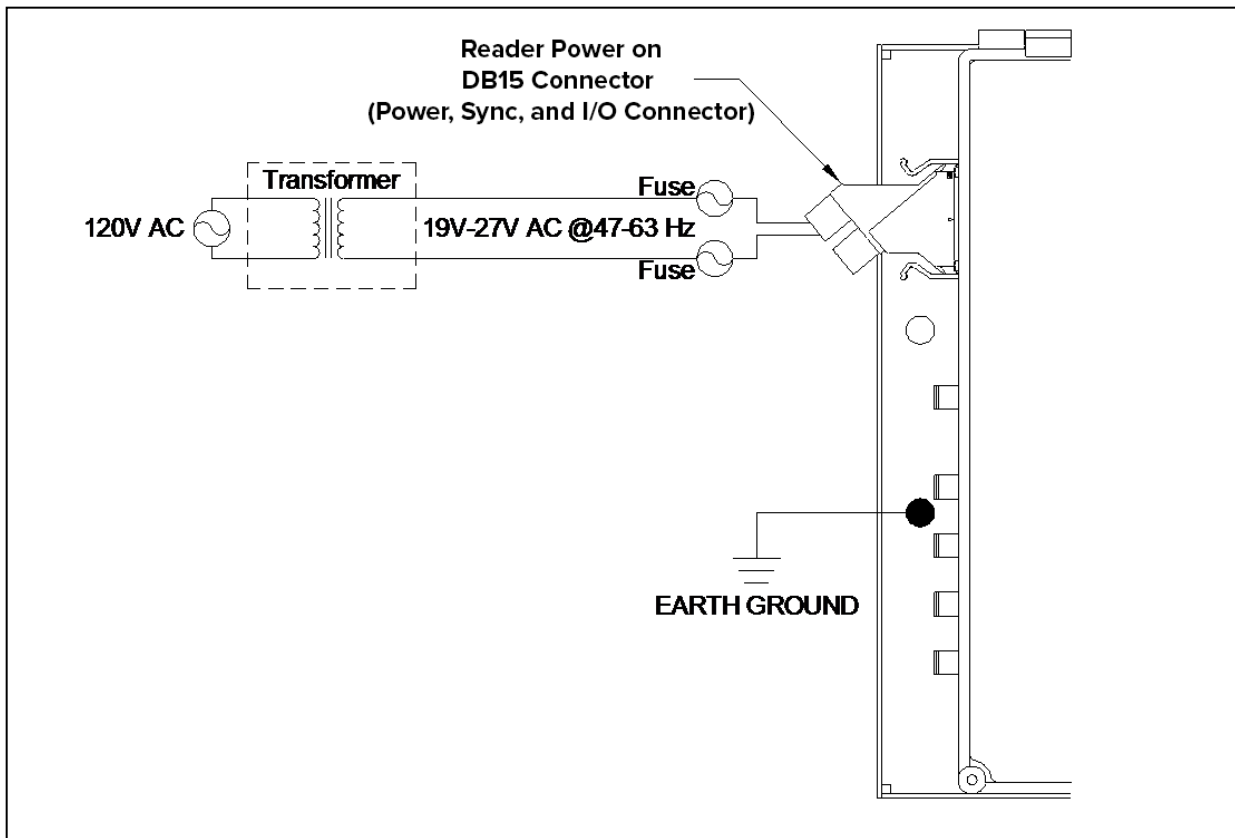
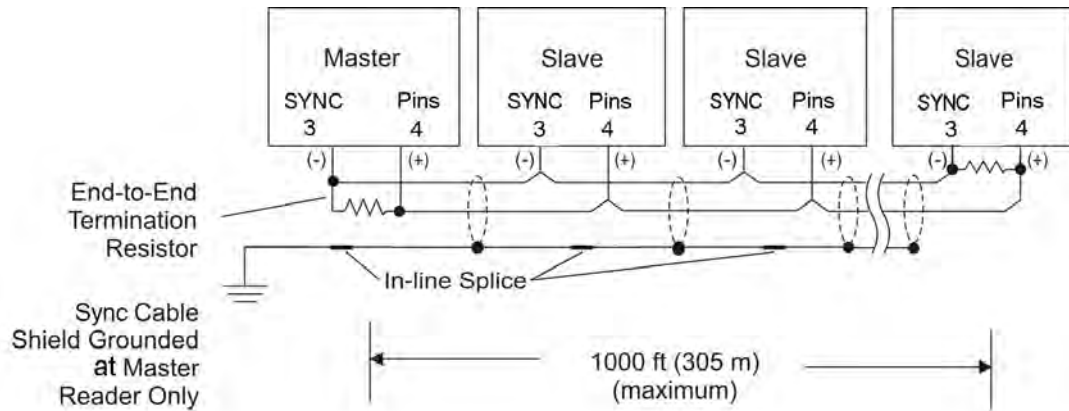

Figure 3-2 Connecting Reader to Power Supply
Figure 3-3 Sync Configuration Example
Input Supply Voltage	19V to 30V DC 19V to 27V AC RMS Note See Figure 3-2 for AC power source wiring and Figure 3-3 for DC power source wiring.
Star Systems strongly recommends that you connect the Orion Reader to the power supply as shown in Figure 3-2.
tion by connecting a pair of wires to the Sync pins on DB15 connector of each reader as shown in Figure 3-3.
5. Connect the Orion Reader to 19V to 30V DC or 19V to 27V AC RMS @47-63 Hz power supply. See Figure 3-2 and Figure 3-3 for recommended wiring directions.